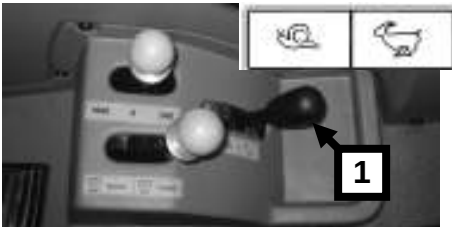

Figure 5-5 Reducer lever "tortoise – hare".
- set reducer lever **1** (Figure 5-5) as required in setting: